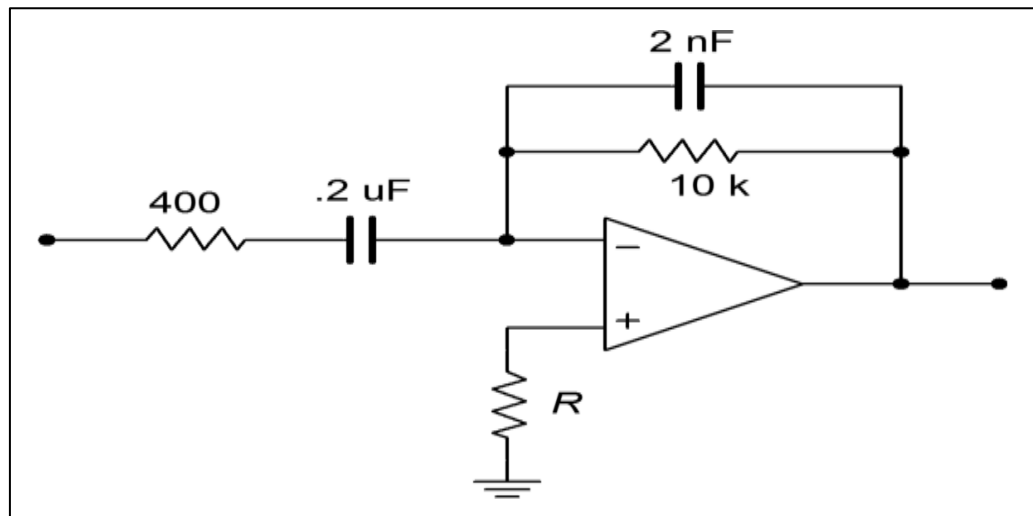

Figure 8.2.4: Differentiator
5. Given the circuit of Figure 8.2.4 carryout the simulation and analyse the output waveforms if the input is a 100 Hz, 1 V peak triangle wave.